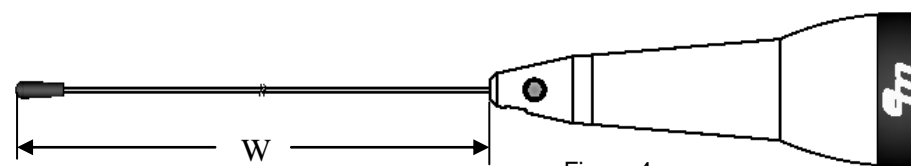

Figure 4
- Note:** The Tuned Length "W" is determined by measuring the distance between the top of the whip adapter and the top of the whip. **See Figure 4.** Cut length dimension will be approximately 1" (25mm) longer than Tuned Length "W".
- Cut the whip length required to establish the specified Tuned Length "W" as shown in Figure 4.
2. **Note:** The tuned length "W" is determined by measuring the distance between the top of the whip adapter and the top of the whip. **See Figure 4.** Cut length dimension will be approximately 1" (25mm) longer than Tuned Length "W".